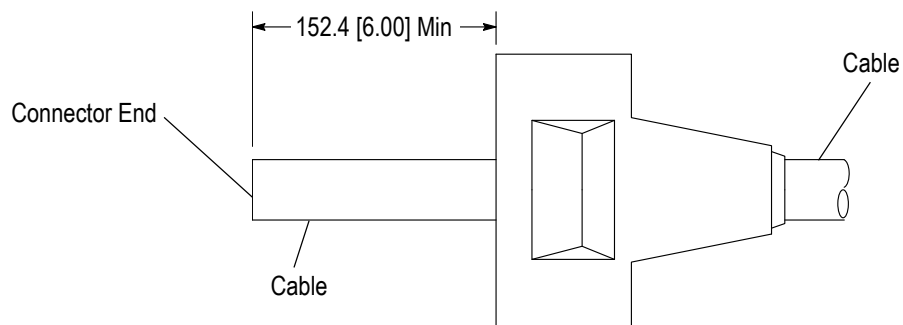

Figure 3
2. Retract the center part of the tool, insert the cable, and slide the enclosure over the cable as shown in Figure 3.